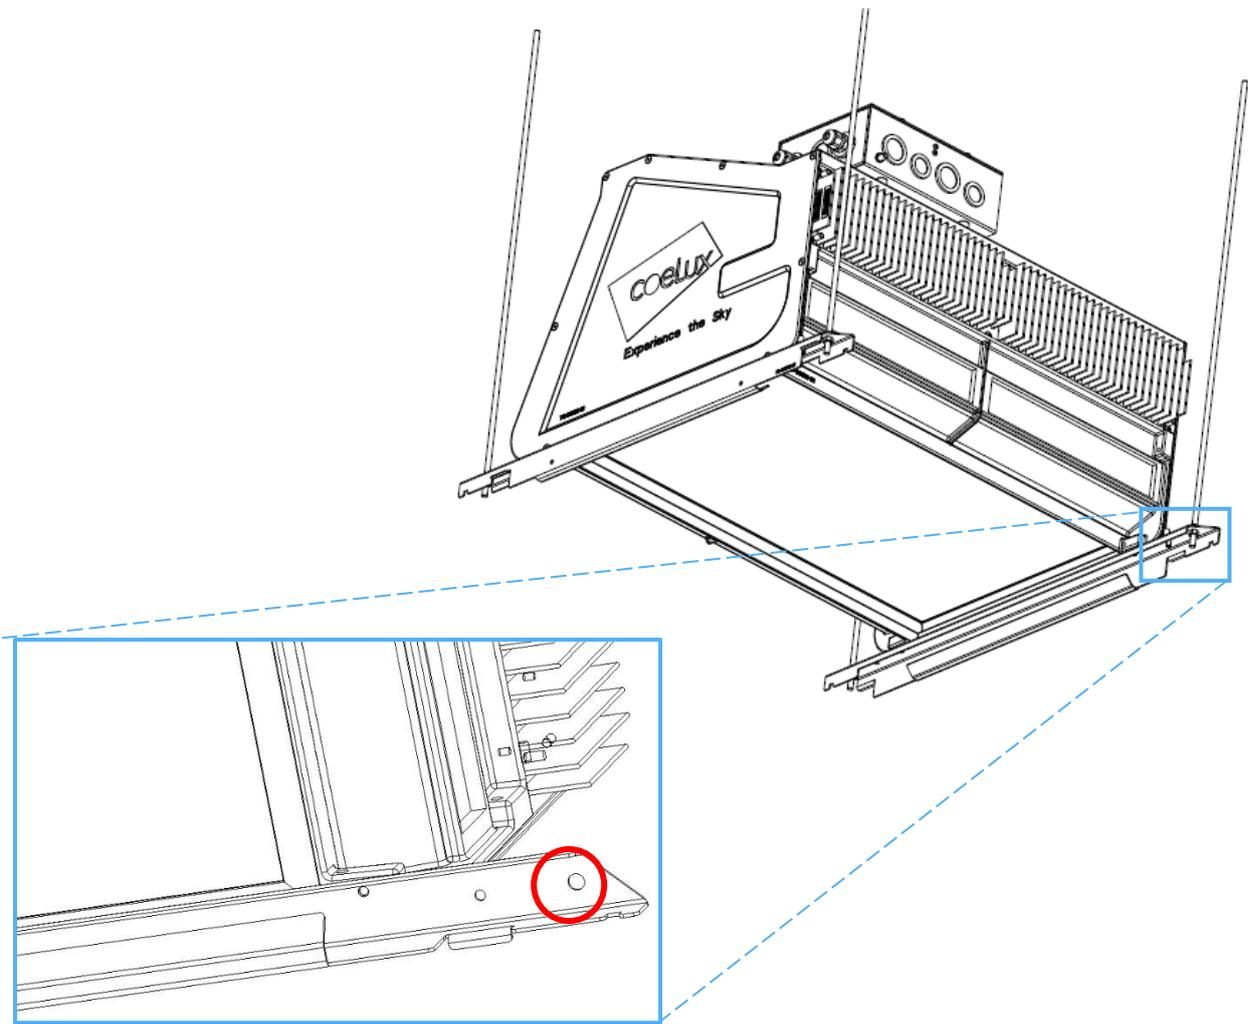

Fig. 14 Mounting to the structural ceiling: step C. Detail: seen from below.
- C. Slide the 4 threaded bars into the holes on the support bars [2] (red circle in the detail in Figure 14) and use another 4 nuts and 4 M6 washers to block them. Use the bottom nuts to adjust the BOX position: once you have established the correct position, also tighten the top nuts to lock the system into position.